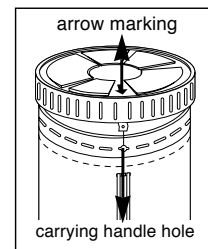

Fig.4
**B) MOUNTING TOP PLATE: (Fig.4)**